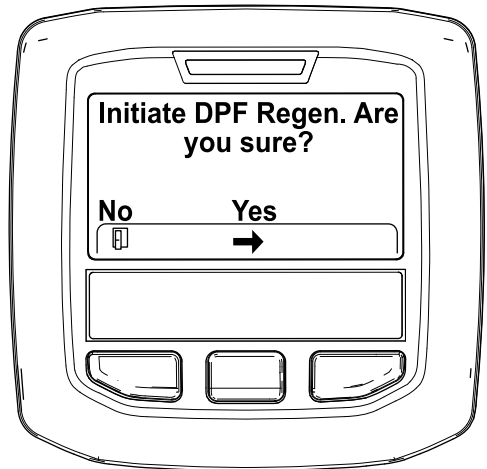

Figure 35
4. When the "Initiate DPF Regen. Are you sure?" message displays, press the center button (Figure 35).